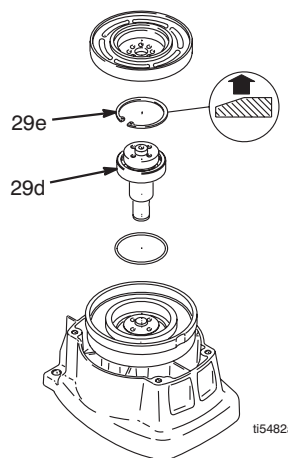
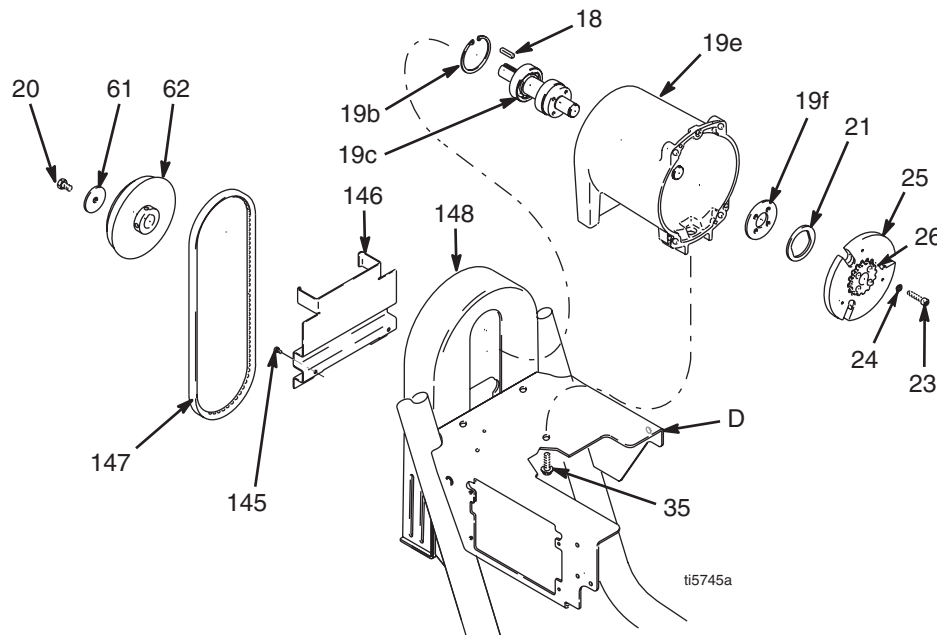

FIG. 7
FIG. 9
7. FIG. 7. Remove retaining ring (29e).
9. FIG. 9. Remove belt guide bracket (146), belt guard (148) and Vee belt (147).
10. Hold pulley (62) and remove four screws (23) and washers (24) from hub (26). Remove armature (25) and spacer (19f).
11. Engine Detail, page 18. Remove screw (20) and washer (61) from engine drive shaft. Remove pulley (62) and motor shaft sleeve (144). Remove pulley and key (18).
12. Fig. 9. Remove three screws (35) from beneath cart frame (1).
5. FIG. 9. Place spacer (19f) and armature (26, 25) on drive shaft assembly (19c).
6. Install three screws (35) through cart frame (1) and into clutch housing (19).
7. Apply Loctite® to screw (20). Install screw, washer (61), key (18) and pulley (62) in end of drive shaft assembly (19c). End of driveshaft (19c) must be 0.090 in. below flush with end of bushing.
8. Hold pulley (62) and install four screws (23) and washers (24) in hub (26). Torque to 125 in-lb (14 Nm).
9. Install belt guard (146), belt guide bracket (148) and Vee belt (147).
10. FIG. 7. Tap pinion shaft (19c) in with plastic mallet.